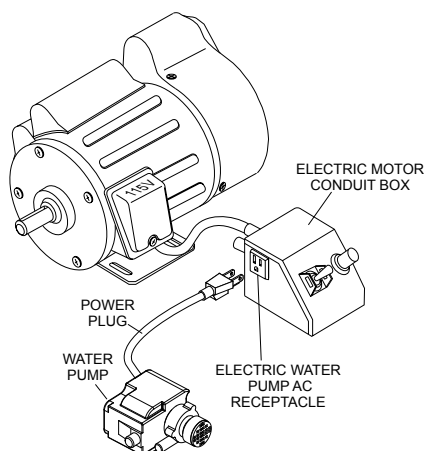

Figure 6. Water Pump Power Connection
7. Insert the water pump power plug into the outlet receptacle on the electric motor conduit box as shown in Figure 6.